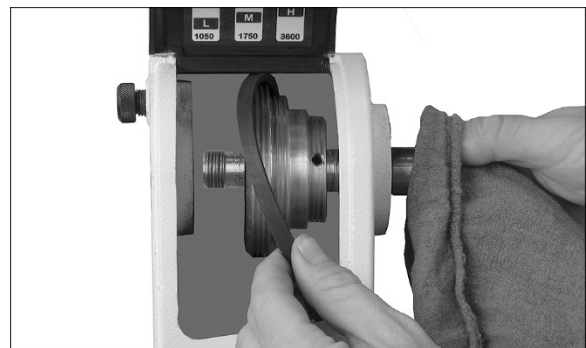

Figure 31
9. Continue pulling spindle toward tailstock until it clears left hole in headstock and offers enough room to remove belt (Figure 31).